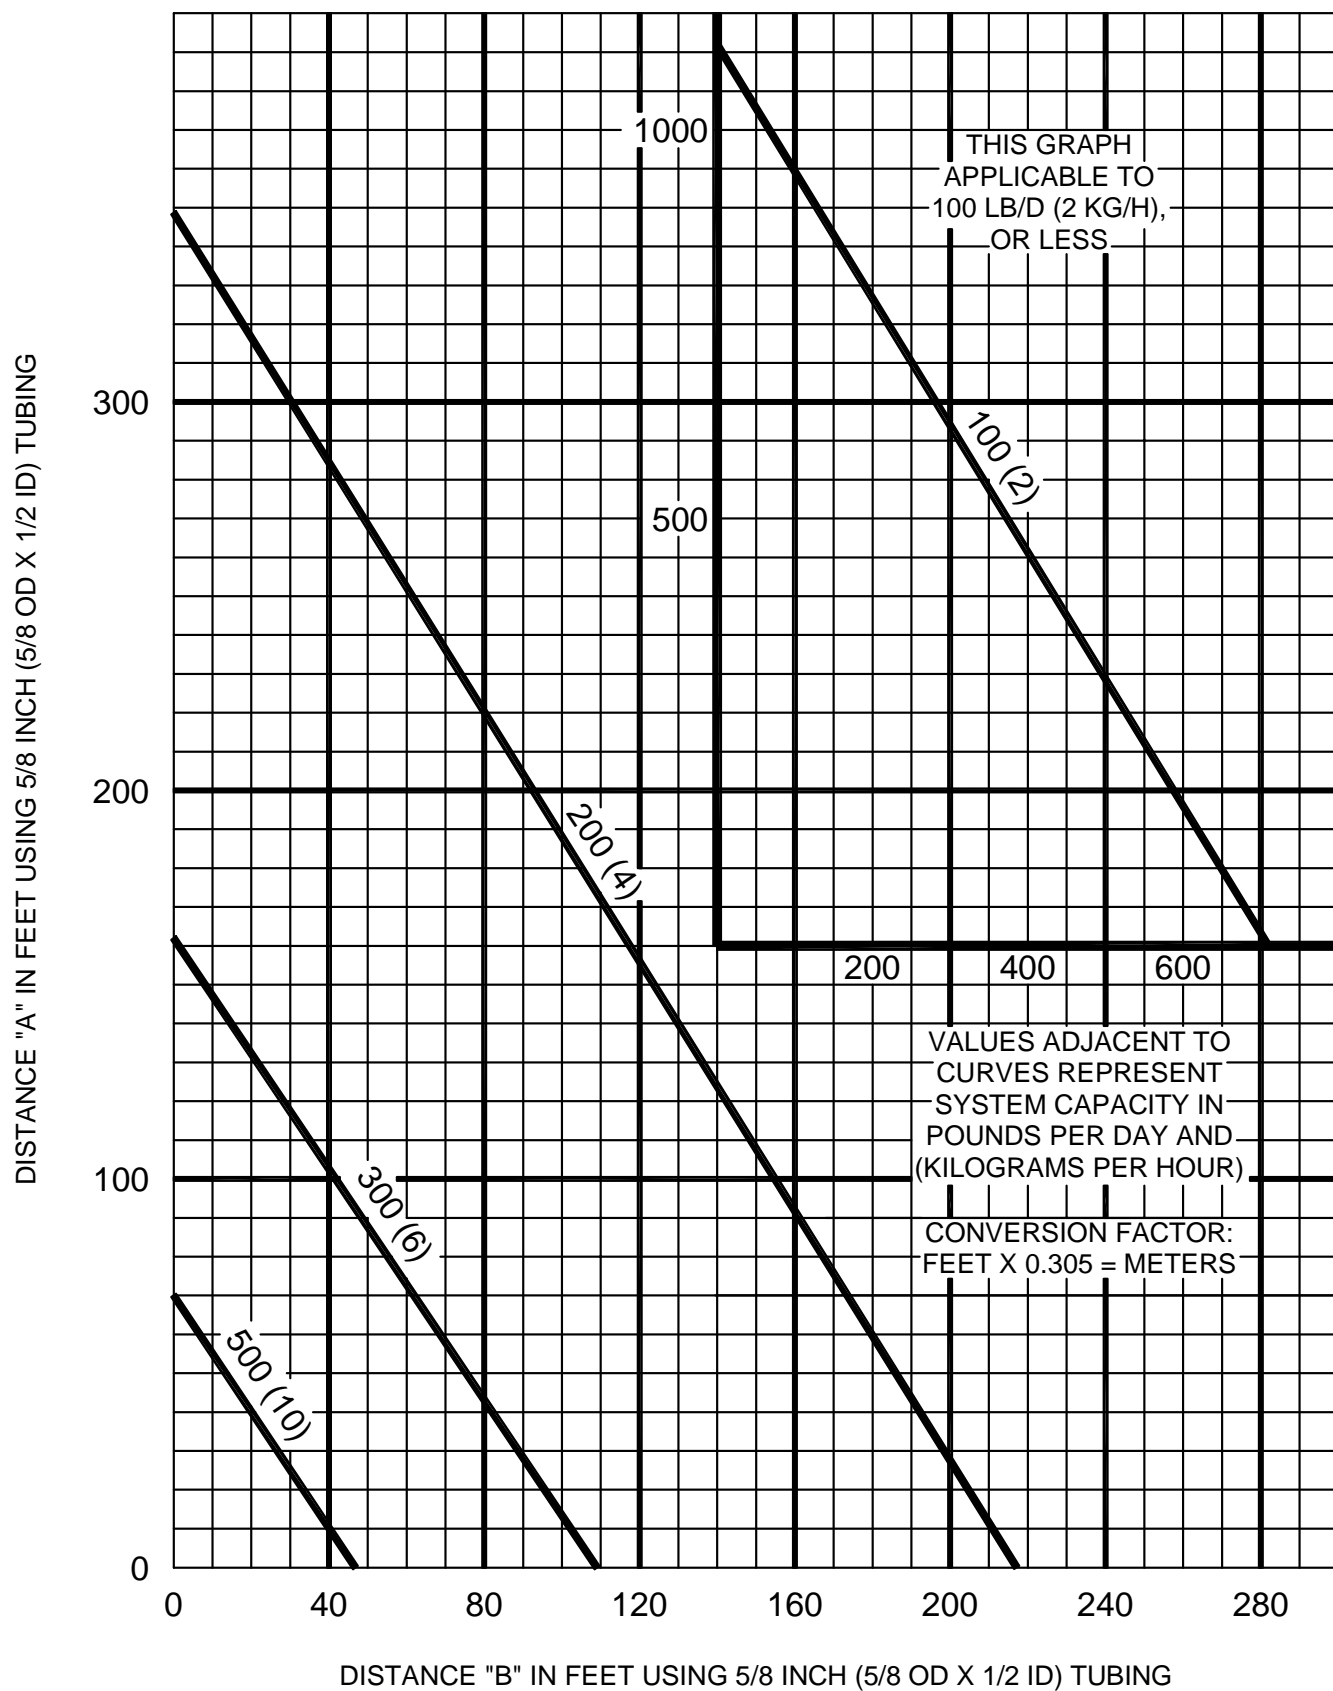

Figure 14 - Vacuum Line(s) Limits of Extension vs. Maximum System Capacity for Chlorine Gas Dispensing System
The vacuum line(s) connecting the regulator(s) to the ejector(s), either directly or indirectly, via one or more wall mounted meter assembly, must not exceed the distance(s) presented in Figures 14 through 16 and the use of the factors provided in Table B, if applicable.
**NOTE:** The graphs in Figures 14 through 16 are for gas dispensing systems in which the interconnecting vacuum line(s) are the normally specified 5/8 inch (5/8" OD x 1/2" ID) flexible tubing. If the required gas flow rate(s) exceed the maximum allowable limits as determined by the graphs (and factors, if applicable), 3/4 inch (or larger) schedule 80 PVC piping must be used in the construction of all (or portions of) the vacuum line(s). In such instances, it will be necessary to contact the supplier from whom the gas dispensing system was purchased for technical assistance.